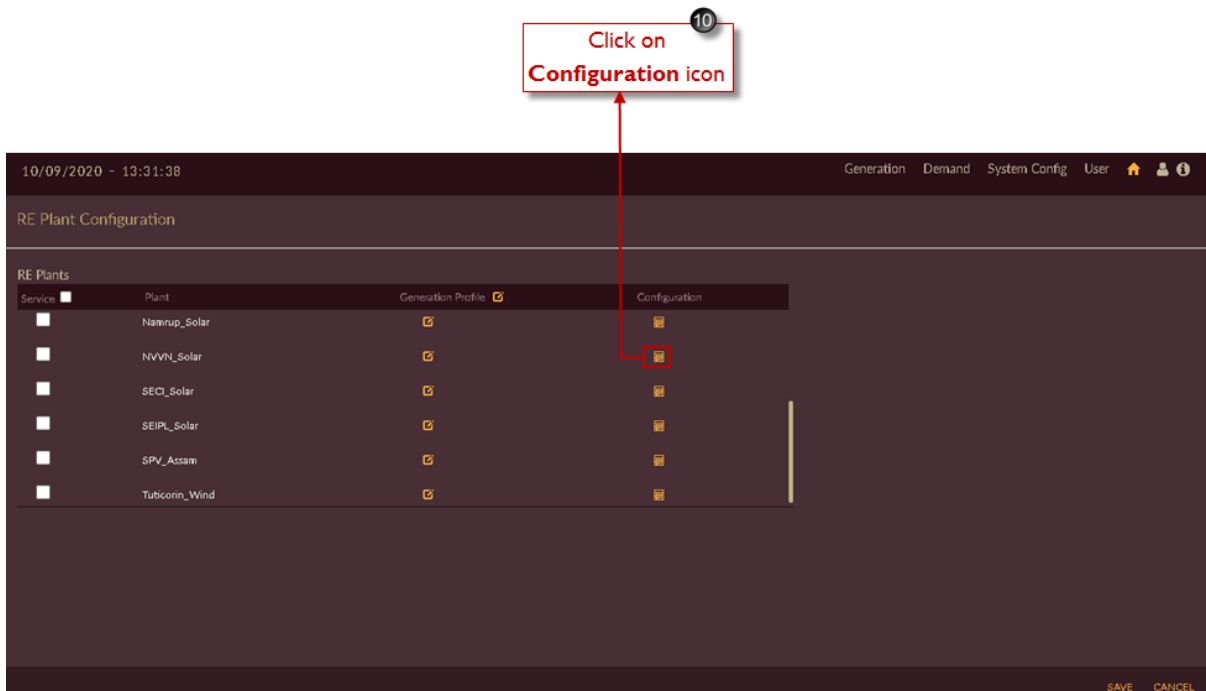

Figure 220. Configuring RE Plants for IRM Scenario
10. Click on **Configuration**  icon of respective RE plant to configure it into IRM Basecase scenario. Here NVVN Solar plant is selected in Figure 220.